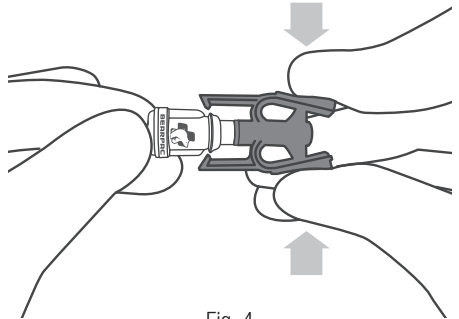

Fig. 4
11. Disconnect the drainage line by holding the catheter firmly and squeezing both sides of the catheter’s connector allowing for the catheter connector to be pulled back from the catheter. (Figure 4)